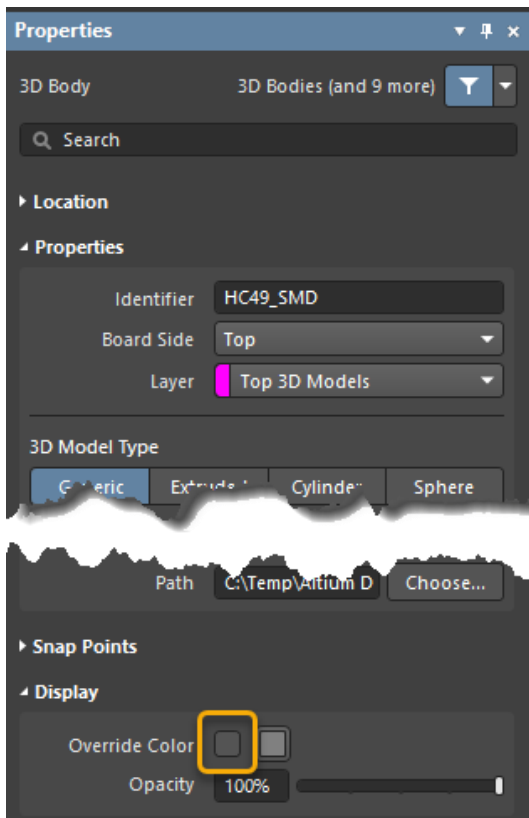

Figure 35. 3D Model Properties
52. With the 3D model still selected open the *Properties* panel and if activated, deactivate the option **Override Color**, as seen in *Figure 35*